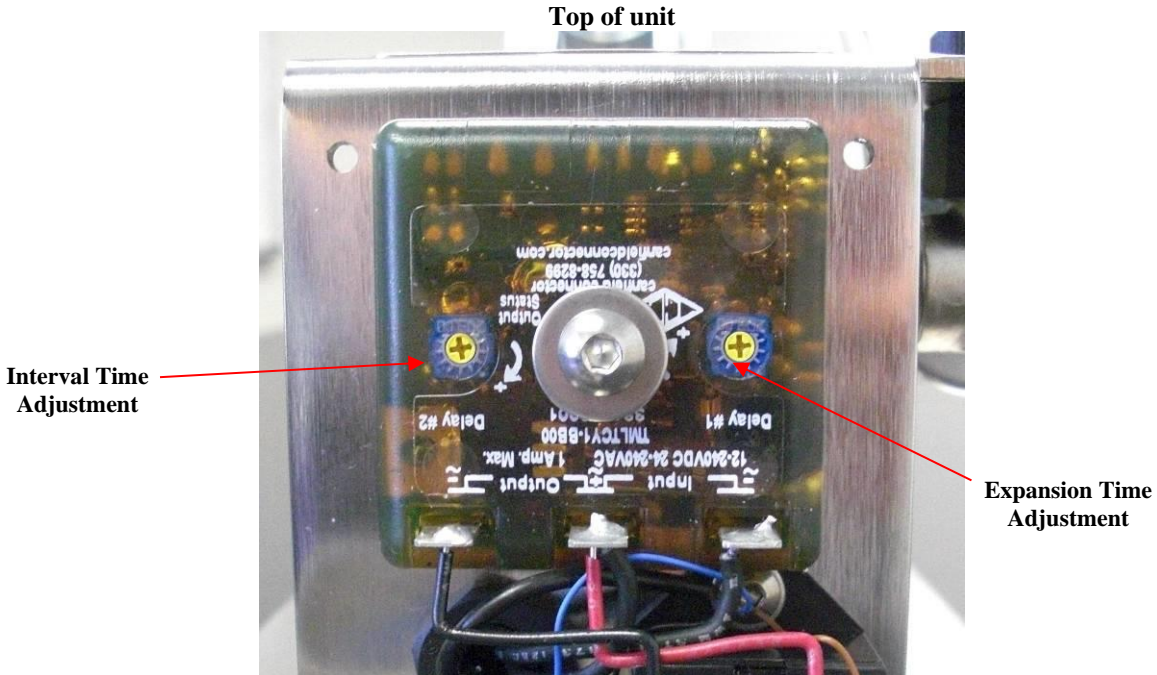

Figure 3.2.3
- *Figure 3.2.3* below shows the CRD201 with the rear cover removed, as well as the location of both time delay adjustments on the time delay relay: